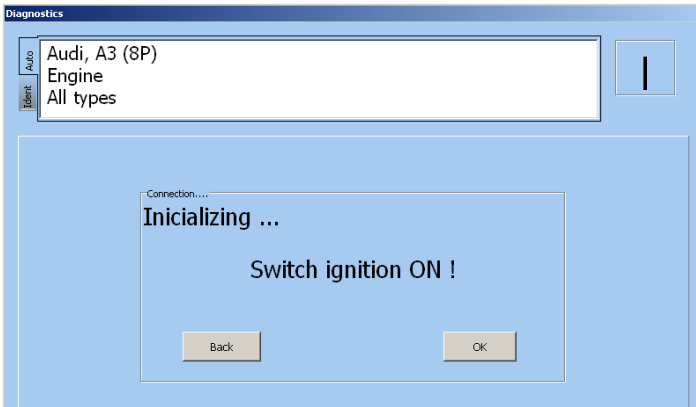

Figure 6.4
If the type and system of the control unit is selected and confirmed by clicking the START button (5), a dialog window (Figure 6.4) telling us to turn the ignition on appears. In the upper part of the screen you can see information about selected diagnostic device (1).